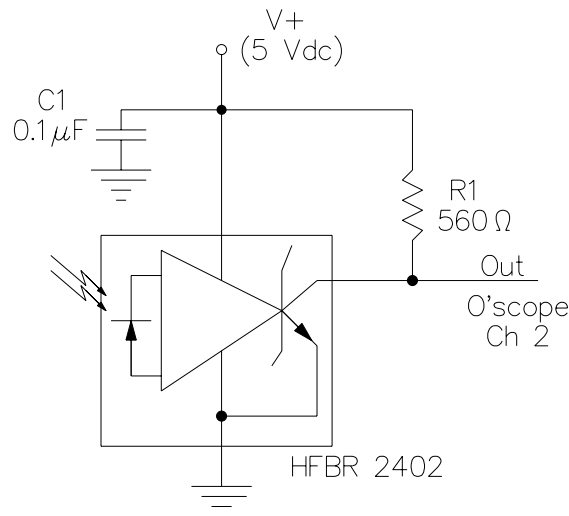

Figure 2: Digital receiver circuit.
4. Connect the fiber cable to the receiver circuit, Fig. 2. Verify that 5 volts DC is applied to the receiver circuit and that the output is connected to Channel 2 of the oscilloscope. Using the variable resistor on the transmitter, find and measure the optical power level that causes the receiver output to change level (i.e., where the output pulse is midway between its extreme values) – this is the “optical threshold power”. (Note that the receiver inverts the output signal from the input signal.)